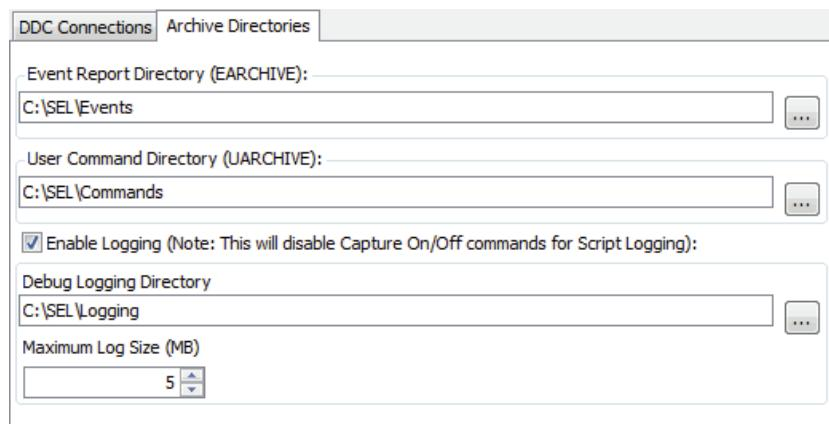

Figure 96 Archive Directories
Step 1. Double-click the **TEAM** node in the Connection Explorer. Select the **Archives Directories** tab shown in *Figure 96* and select the **Enable Logging** check box. Select the ellipsis (...) to define the file location for the **Debug Logging Directory**.